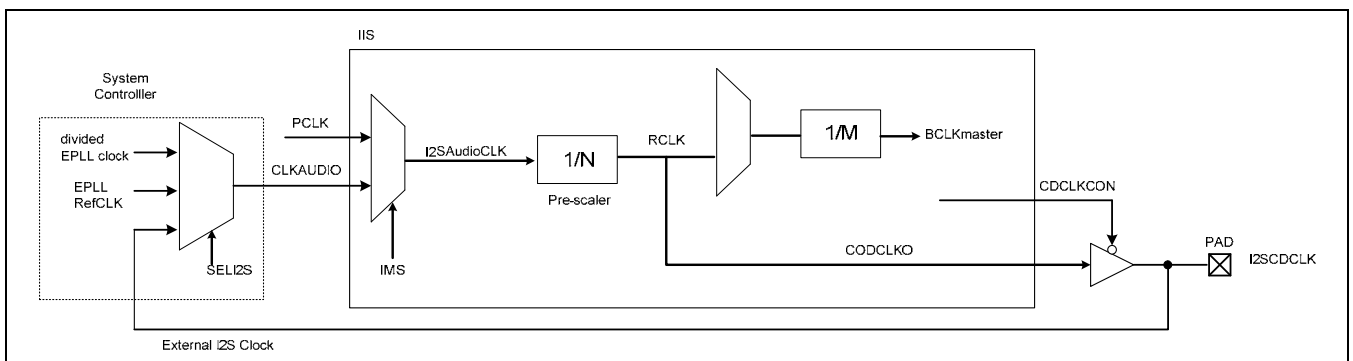

Figure 26-2. IIS Clock Control Block Diagram
Figure 26-2 shows the route of the root clock with internal master(PCLK, divided EPLL clock , EPLLrefClock) or external master(External I2S clock) mode setting in IIS clock control block and system controller. Note that RCLK indicates root clock and this clock can be supplied to external IIS codec chip at internal master mode and slave mode.(when CDCLKCON bit of IISMOD register is 1). At slave mode RCLK doesn't affect to I2SSCLK and I2SLRCLK, but for correct I2S functioning setting RFS, BFS are needed.
2. Now then, you choose clock source. S3C2451 has four clock sources. Those are PCLK, divided EPLL clock EPLLRefCLK and external codec. If you want to know more detail, refer Figure 26-2.